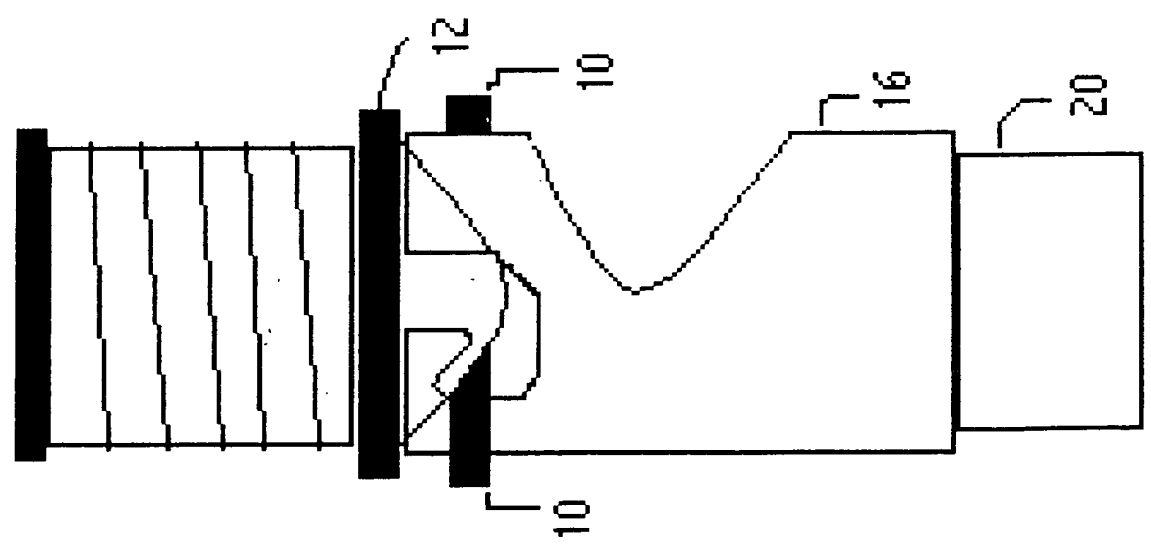

FIG. 10
- Fig 10 shows new configuration ~~(after assembly)~~ OF SAID MODIFIED SPARK PLUG TERMINAL AND SAID MODIFIED SPARK PLUG a preferred embodiment. ~~WIRE TERMINAL BEING CONNECTED~~